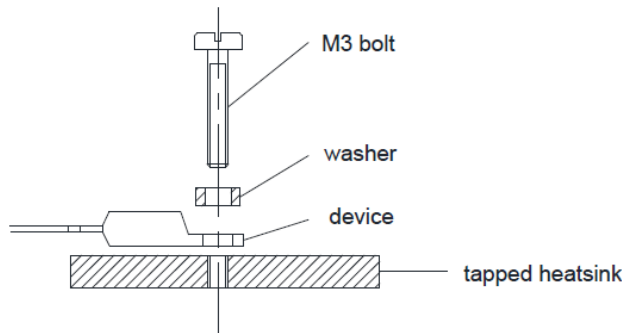
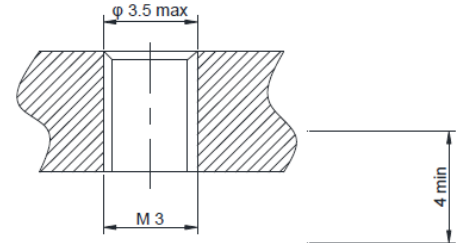

Fig. 7 Screw mounting assembly
Fig. 8 Heatsink requirements
- Into tapped heatsink as shown in Figure 7. Corresponding heatsink requirements are shown in Figure 8.